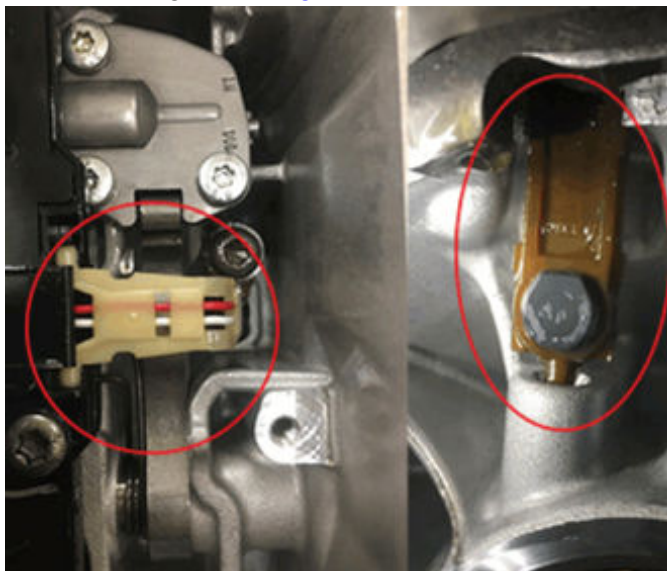

Fig. 46
70. This is the correct installation and pin alignment Fig. 46.